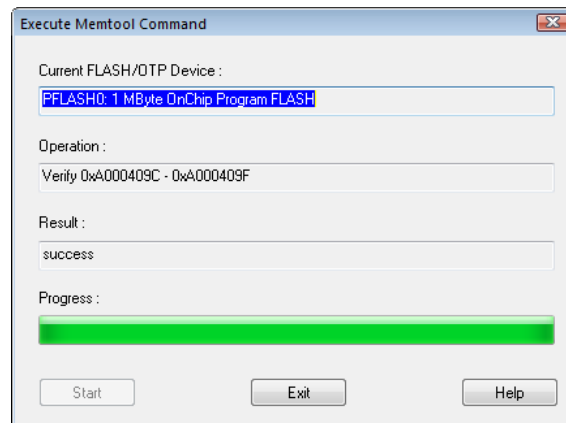

Figure 37 FLASH programming progress dialog
7. Start flashing with the **Program** button. A progress dialog appears (Figure 37). After successful programming close both dialogs.